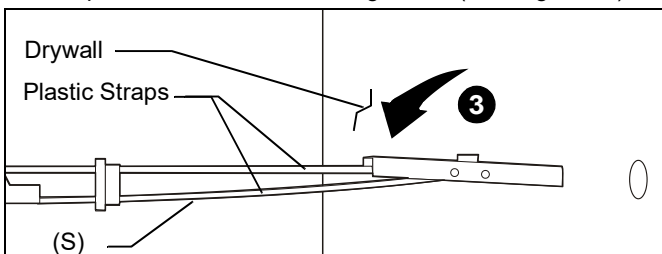

Figure 12
3. Hold metal channel on anchor (S) flat alongside plastic straps and slide channel through hole. (See Figure 12)